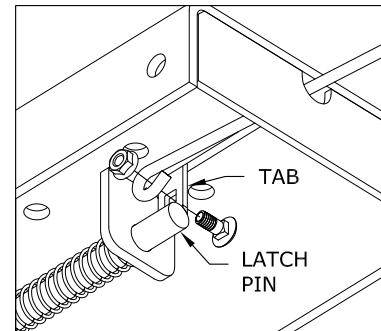

Figure E2: Handle Installation
2. Secure the handle to the pin with the 5/16" X 3/4" carriage bolt and 5/16" locking flange, see figure E2. Note: The included 5/16" cap screw can replace the carriage bolt if wrench access on the "cab side" of the handle is limited. Tighten the nut until it is secure. Do not over-tighten and deform the handle eyelet.